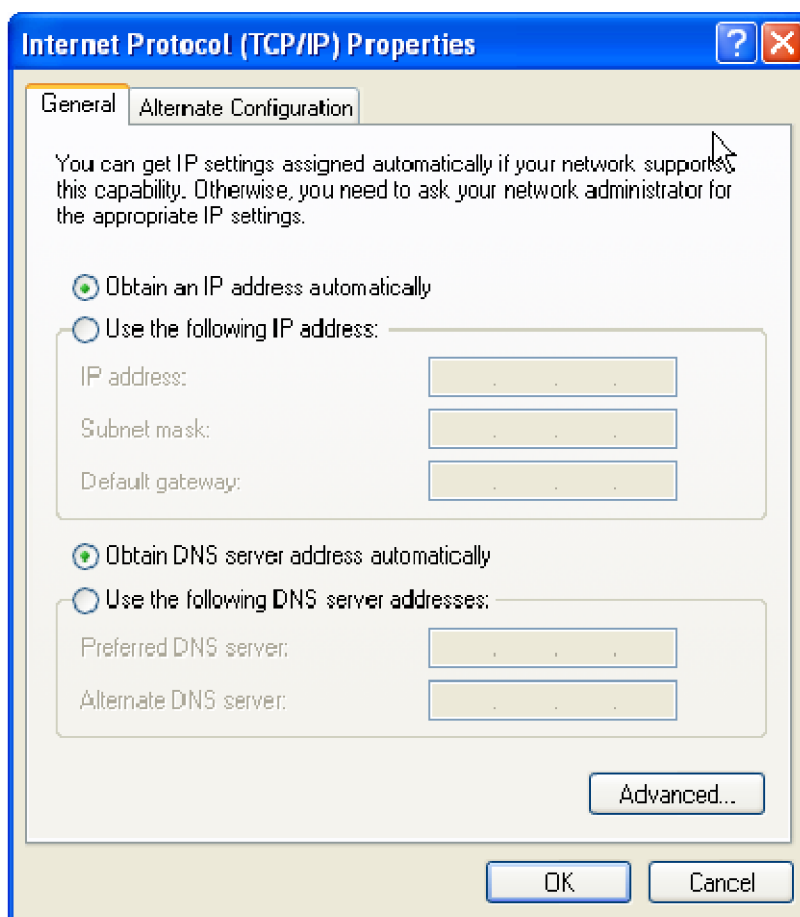

Figure 19: IP Properties dialog box
5. Scroll down the list and select **Internet Protocol (TCP/IP)**, and then click **Properties**. The Internet Protocol (TCP/IP) Properties dialog appears. (See Figure 19.)